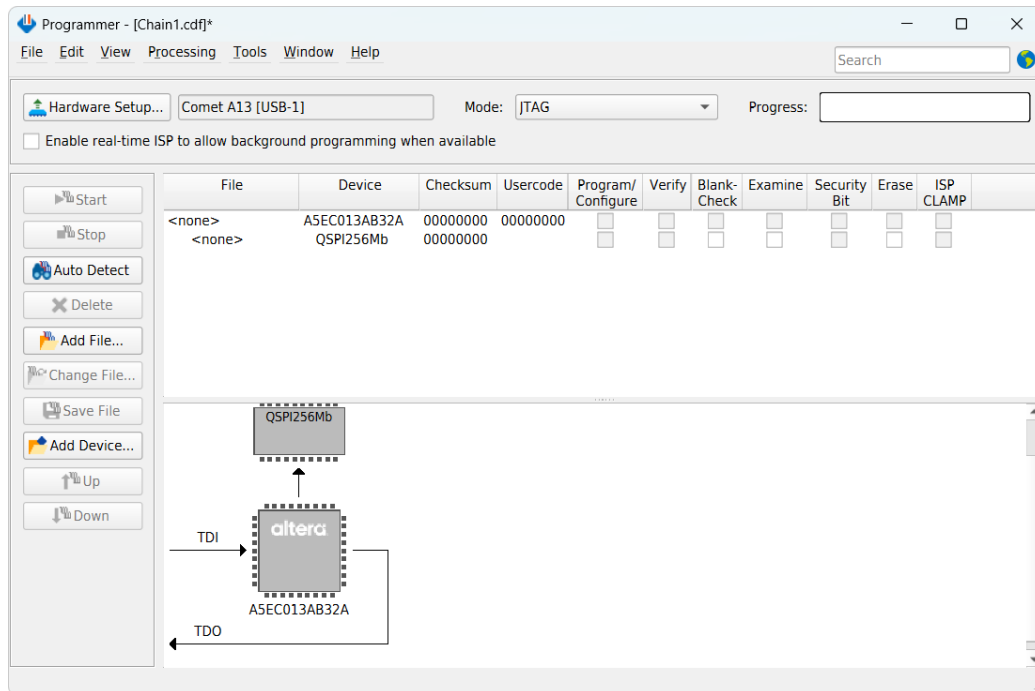

Figure 4-5 JTAG Chain on Comet A13 evaluation kit
6. The FPGA device and QSPI flash of Comet A13 evaluation kit are detected under Programmer, as shown in **Figure 4-5**. Note :The user will see the **QSPI flash** on the JTAG chain because the FPGA configuration mode is set to **AS** mode.